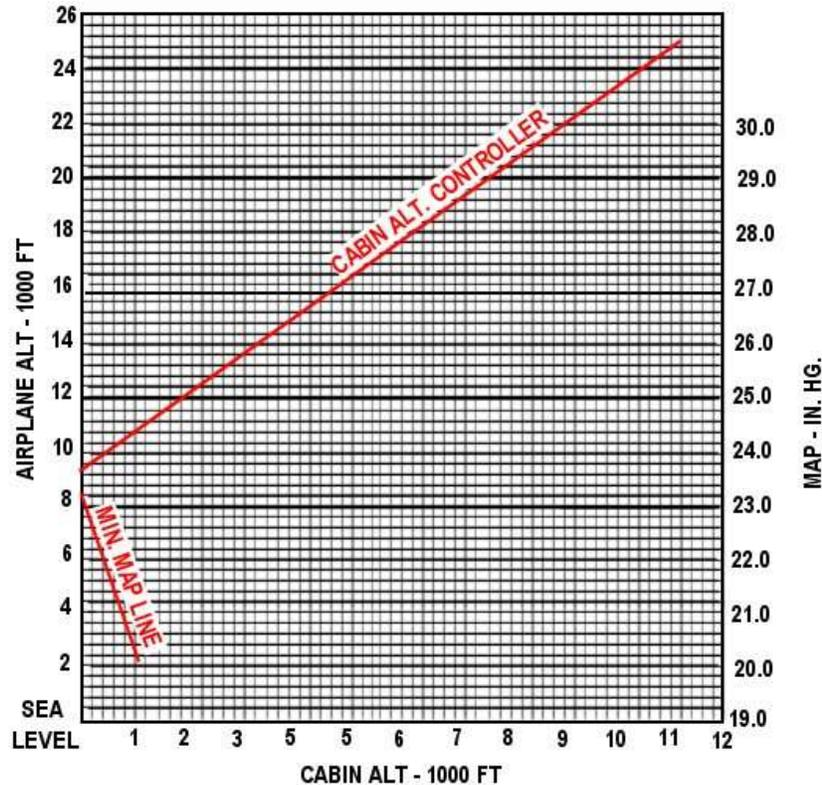

Figure 1
- It is determined that FL210 will be used for this flight, so that cruise altitude is chosen. Referring to Figure 1, Cabin Altitude VS Airplane Altitude/ Manifold Pressure (MAP) at 3.50 PSI differential pressure, a comfortable cabin altitude of 8,500 feet may be found at the desired cruise altitude of 20,000 feet.
A similar procedure may be established for descent as for climb. Generally, the first descent segment will be some intermediate altitude. For an example, 11,000 feet will serve as an arbitrary figure. As this clearance is obtained, a descent out of FL210 may be initiated. For our example a descent rate of 1,500 FPM will be used. As the initial descent altitude is 11,000 feet, a reference to Figure 1 will indicate that the cabin may be descended to its minimum selection of 4,000 feet for sea level controller (Le. 1,000 feet above field elevation) as the airplane descends to 11,000 feet. Reference to the Cabin Altitude VS Airplane Altitude/ MAP chart (Figure 1) will aid in determining the minimum manifold pressure to maintain cabin altitude. In the above cases, and for all cabin altitudes above 1,200 feet, approximately 20 in. MAP is that minimum value. The cabin will descend 4,500 feet with sea level controller.